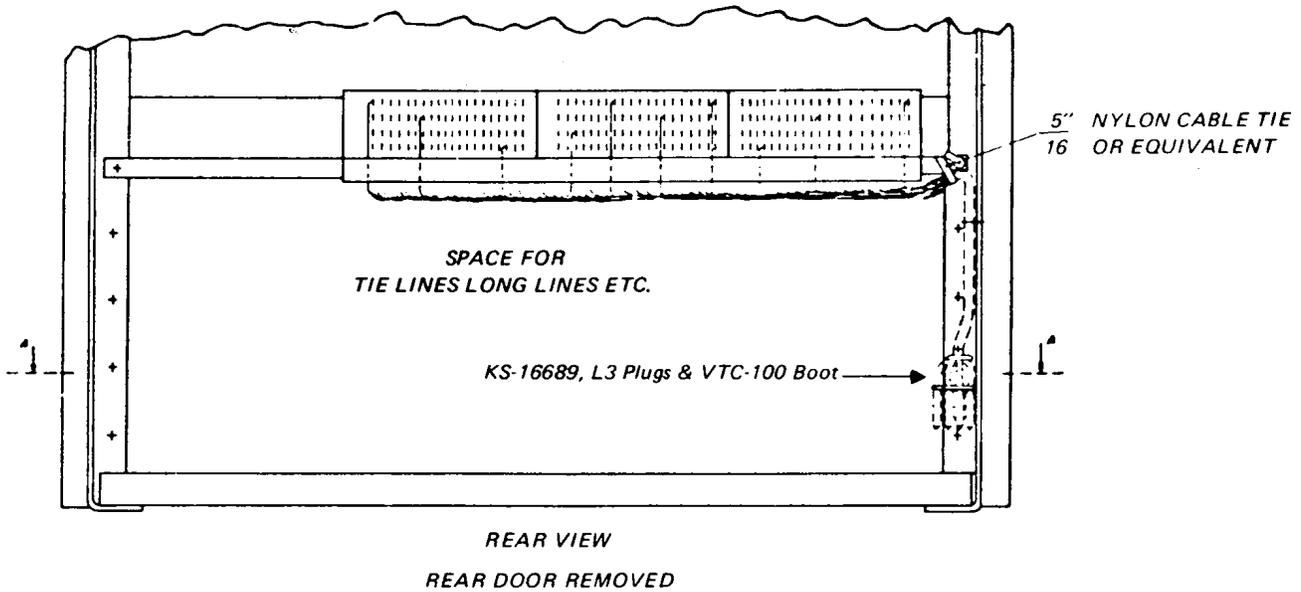

FIG. 1
2.01 Western Electric Co. will pre-cable the 60 line 555 PBX as shown in Figure 1.